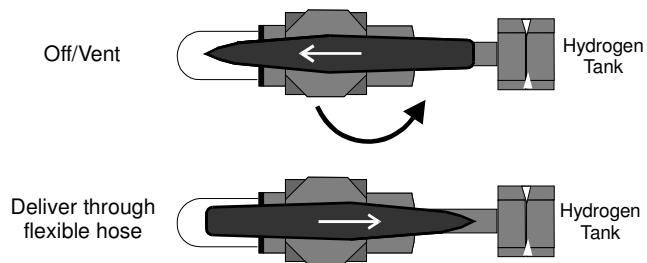

Figure 3
3. Turn the refill adapter 3-way valve so that it points away from the cylinder. See Figure 3.